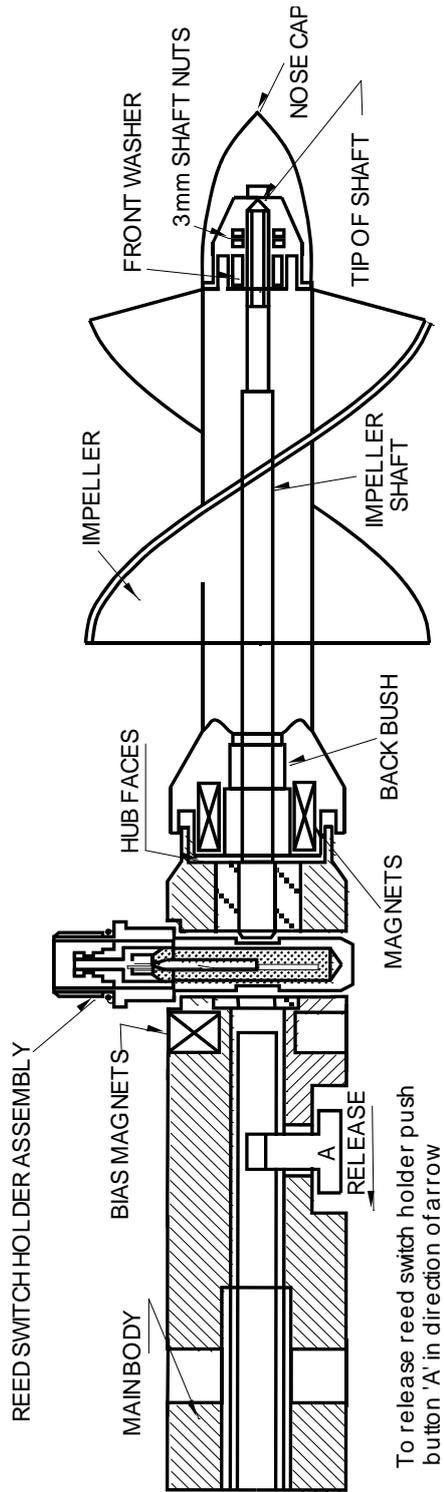

Figure 3 – sectional diagram of BFM002
7.3 Figure 3 - Sectional Diagram of BFM002